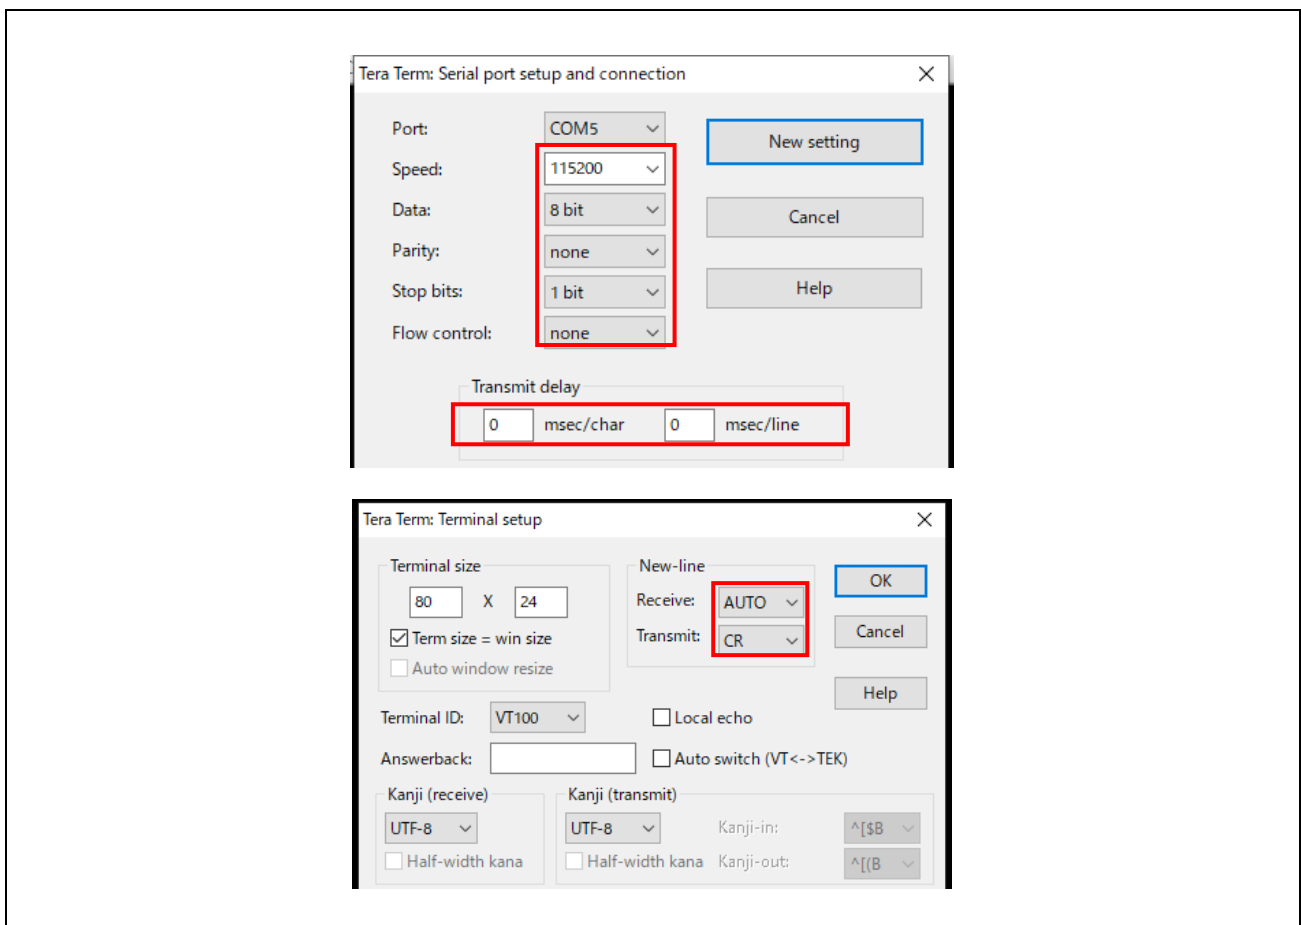

Figure 2.2-1 Settings of Tera Term
3. Connect CN5 of V2MEVK and the Windows PC with a USB cable (standard-A-micro-B) and start Tera Term. See **Figure 2.2-1** for Tera Term settings.
Note: **Figure 2.2-1** shows the configuration for RZ/V2M Linux Package Ver1.2. If you will be using a different version, refer to *the RZ/V2M Linux Package Startup Guide for that version*.